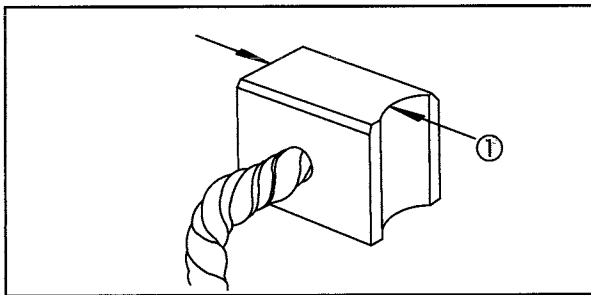

Fig. 37
Minimum brush dimension (1) is **1/4" (6 mm)**. If brushes are worn less than specification, replace the starter housing, Fig. 37.